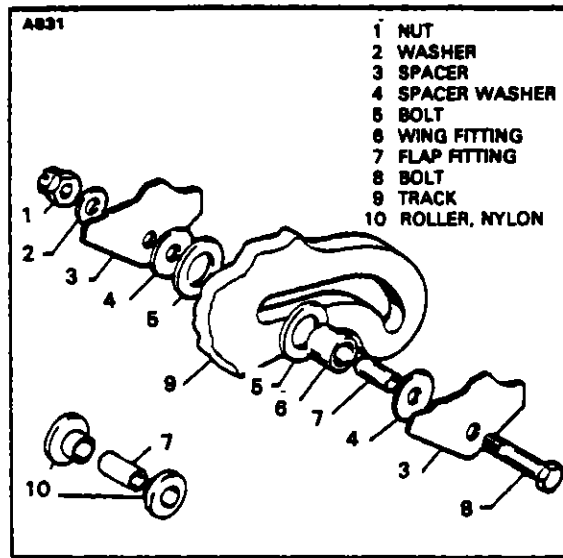

FIGURE 4-3. FLAP ROLLER INSTALLATION
- b. Position flap in place, lubricate flap rollers and tracks (See Lubrication Chart, Section II) and install the lower roller assemblies. (Refer to Figure 4-3.) When nylon rollers are installed lubrication of rollers and tracks is not required.
- b. Position the flap in place, lubricate the flap rollers and tracks (Refer to Lubrication Chart, Section II) and install the lower roller assemblies. (Refer to figure 4-3.)